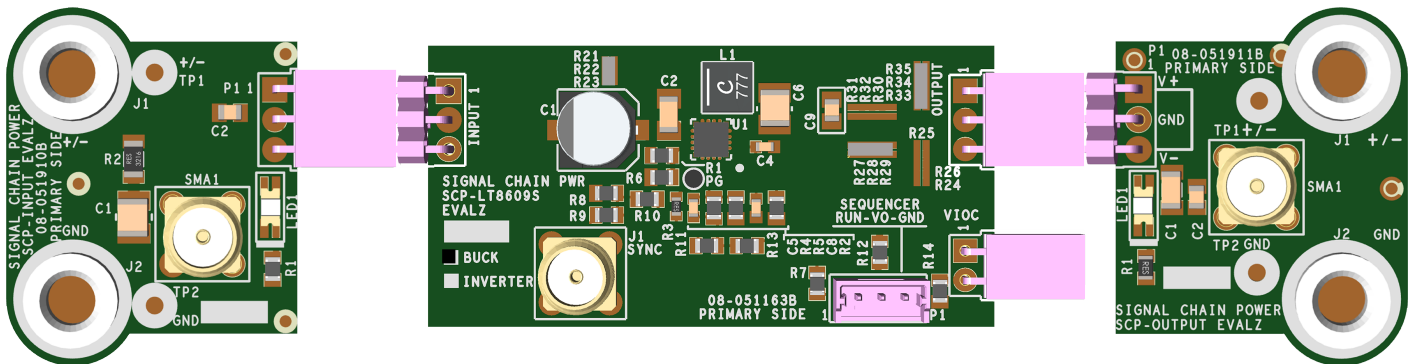

Figure 2. Proper Measurement Equipment Setup (Use SMA connectors for Measuring Input or Output Ripple)
2. Connect the SCP-INPUT-EVALZ and SCP-OUTPUT-EVALZ boards to the SCP-LT8609S-BEVALZ (refer to Figure 2) and connect the input board to a voltage source, V_{SOURCE} . Connect the output board to a voltmeter or dynamic load. Slowly raise the input voltage until the SCP-LT8609S-BEVALZ powers up into regulation and sweep V_{SOURCE} through the desired range of operation.